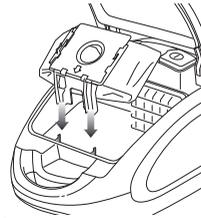

Fig. 14
- 7 Gently slide the holder back into its grooves as far as it will go and close the cover. (Fig. 14)